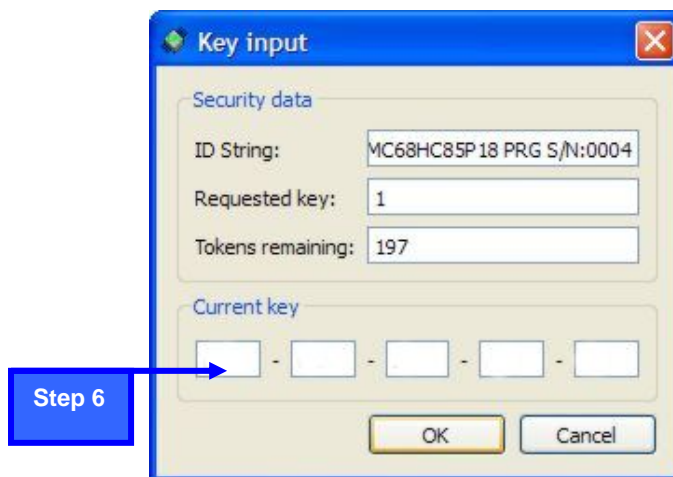

Figure 7
- ▶ Step 5: Enter Serial key number. This step is necessary on the first use of the programmer or on the next key request. Click Serial key menu button. Enter Serial key number. Key consists of 5 fields that should be filled. Step 6; Figure 7